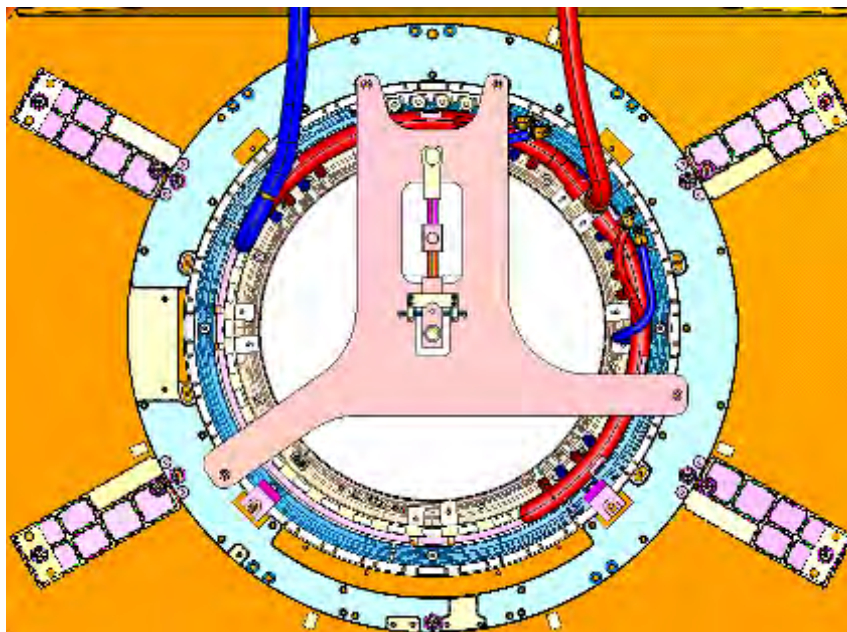

FIGURE 42 – Support plate attached on the Interface Ring
- d) Attach the Tube Support Plate to the magnet **service-end** using the 100mm M10x25 SS studs (5303994), SS M10 nuts and washers included in the Gradient Coil Insertion and Lift Kit. Make sure the four extension spacers face towards the Magnet Interface Ring. **(FIG 42).**